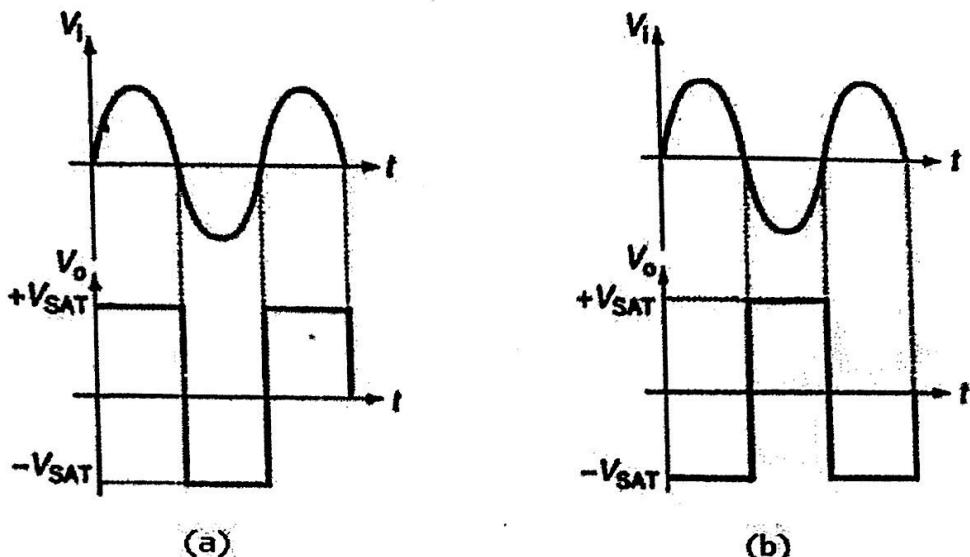

Figure 17.40: Waveform of (a) Non-inverting zero-crossing detector (b) Inverting zero-crossing detector
- Common Application of zero-crossing detector: To convert sine wave signal to a square wave signal (Figure 17.40).